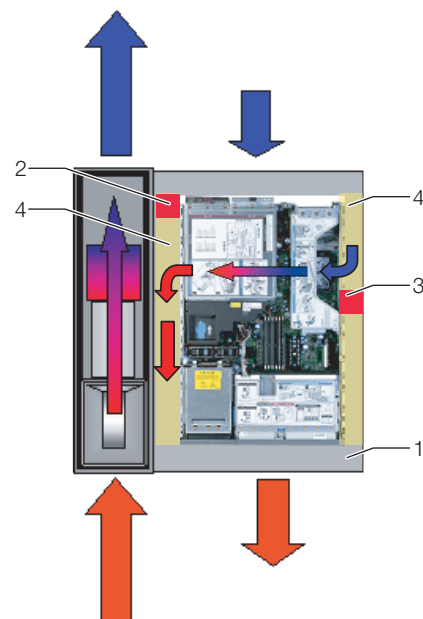

Fig. 16: Placement of foam strips for devices with sideways air throughput – top view
- If several devices which require sideways air throughput are included, cut out several pieces of the foam strip, as is appropriate, so that, ultimately, there is a cut-out in the foam to the left or right in the height of each such device in the server rack. Ensure that there are no gaps on the warm air side of the device (Fig. 16, item 2).
- Attach the foam strips to the cold air side of the devices facing backward (Fig. 16, item 3). Ensure that you attach the strips such that all fans built into the devices can draw air and that none of them are blocked.
The foam strips can be attached between the front and rear supports of the server rack along the entire depth of the devices with air throughput at the sides (Fig. 16, item 4).